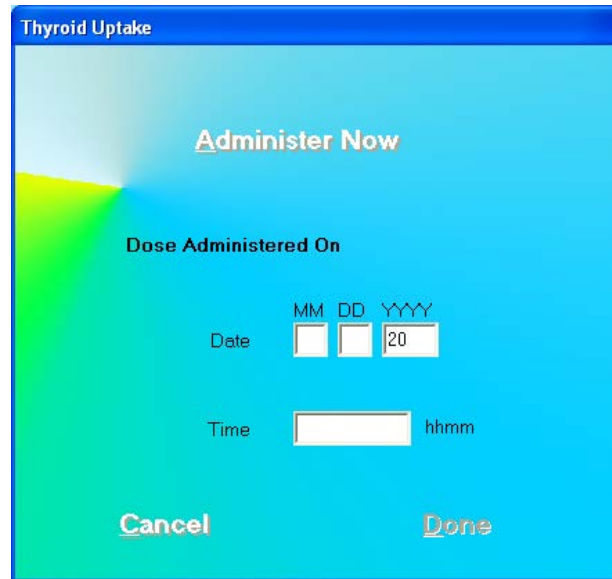

Figure 7-25
1. Click the **Administer Dose** button or press *Alt+A* from Figure 7-1 Main Thyroid Uptake Screen. The screen appears as shown in Figure 7-25.